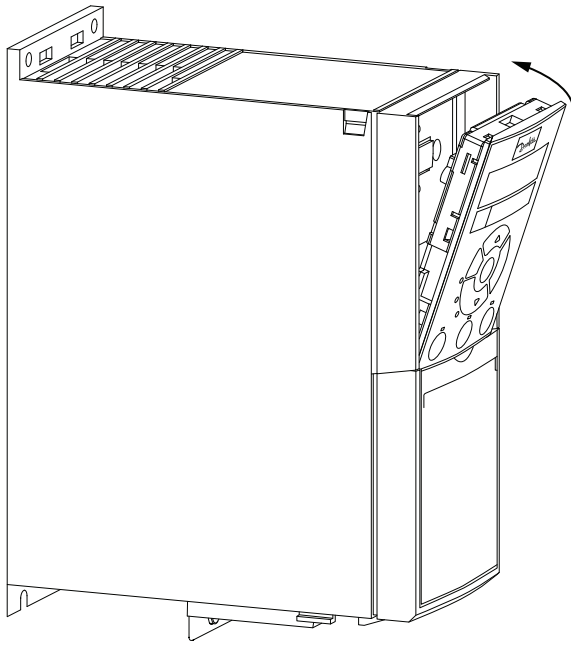

Fig. 85 — Secure Keypad in Place
2. Push the top of the VFD keypad into the variable frequency drive as shown in Fig. 85.